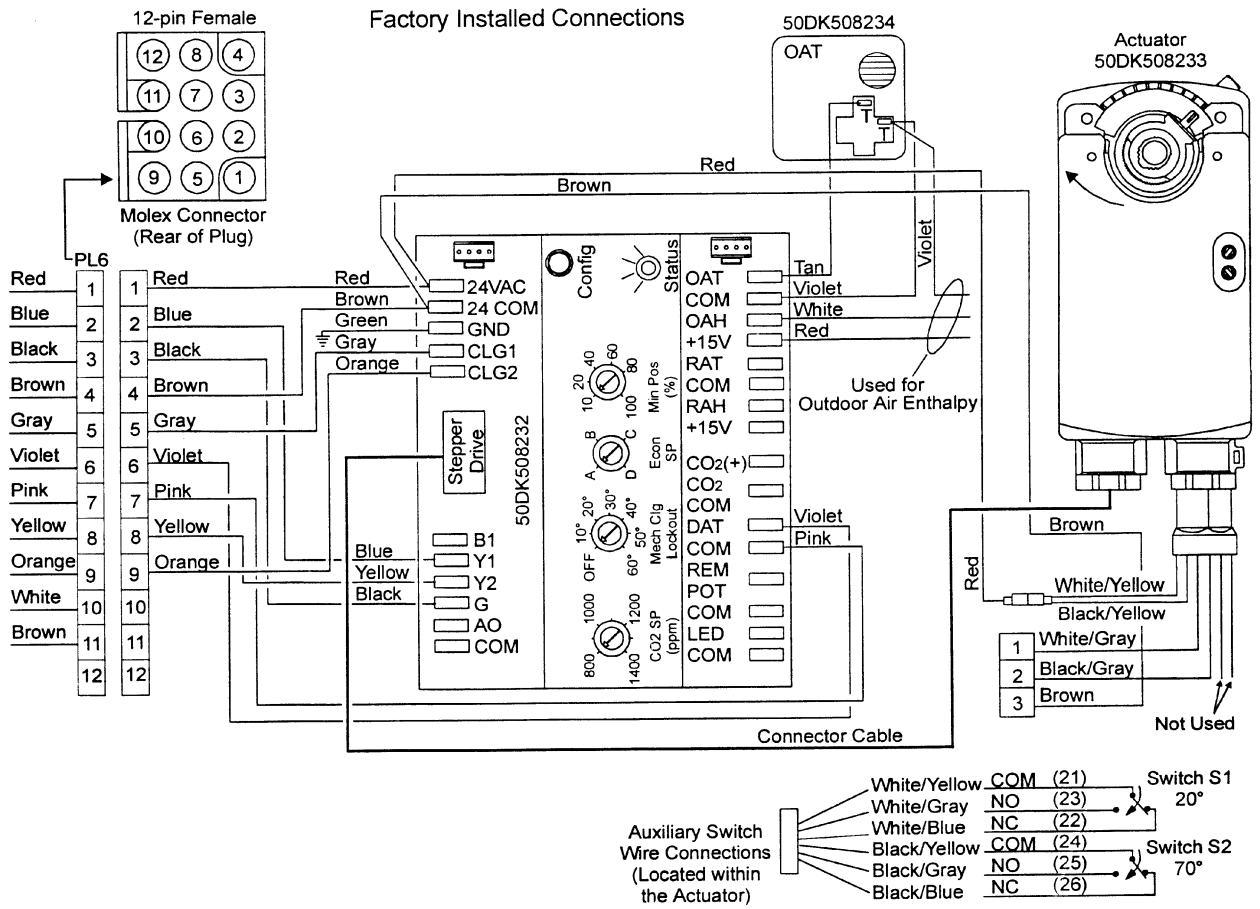
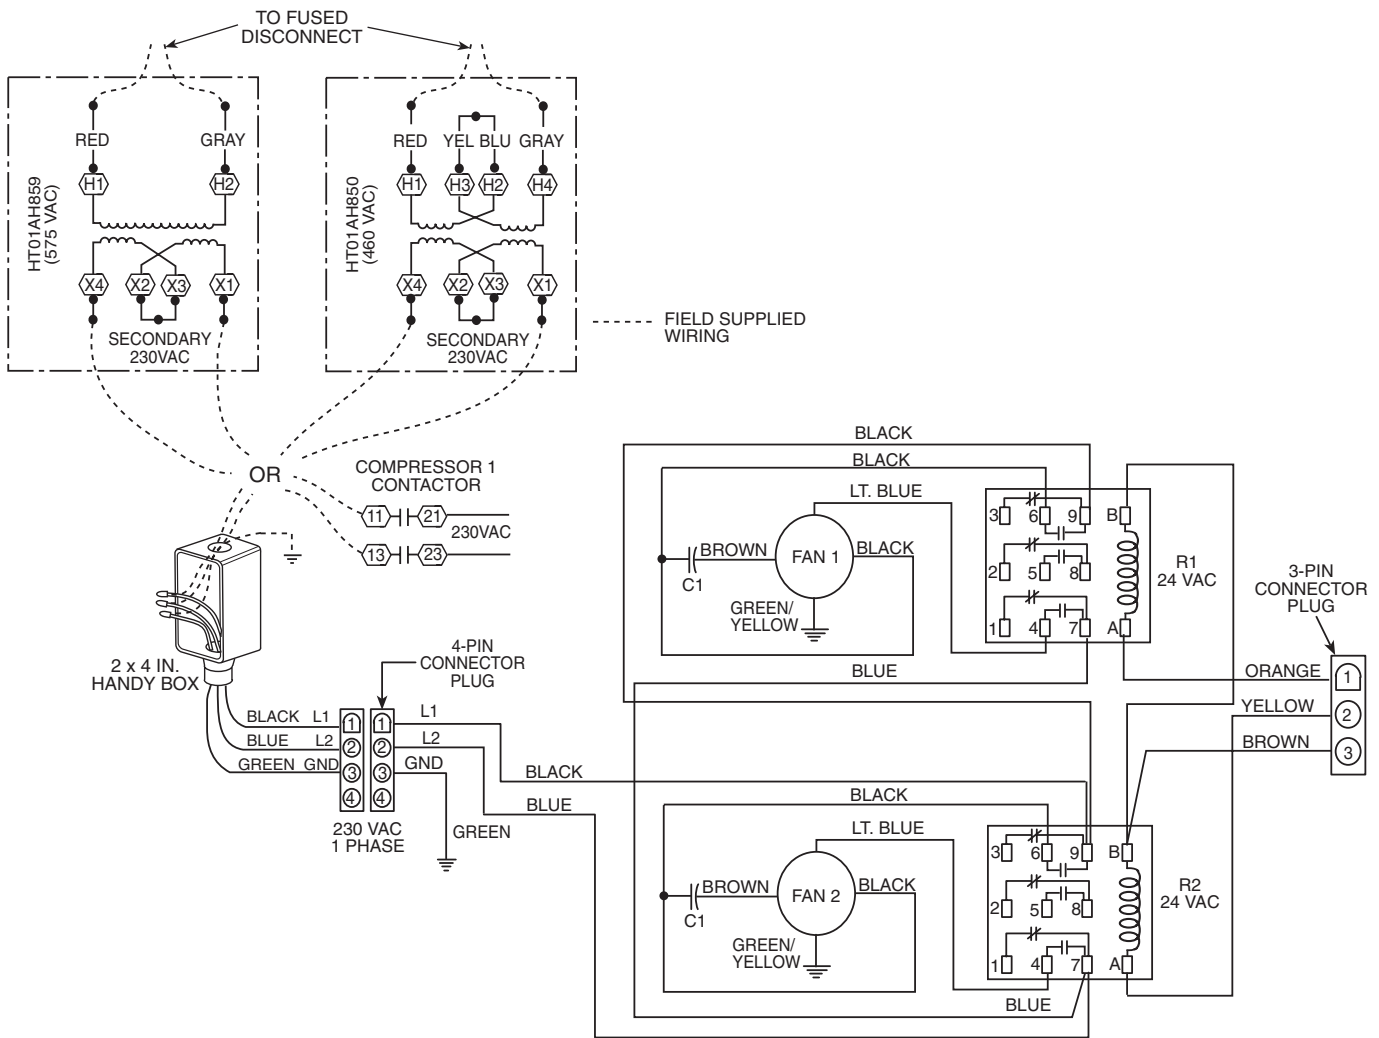

Fig. 30 — EconoMi\$er Wiring
Fig. 32 — Wiring Diagram for Power Exhaust System
- Remove and save the 12-pin blue and yellow wire jumper plug from the unit wiring harness located in the upper left corner and insert the EconoMiSer plug. Refer to wiring diagram Fig. 30 and 31. Also refer to Fig. 32 if installing an accessory power exhaust.
NOTE: If optional power exhaust is being installed, complete installation of power exhaust at this time. See Fig. 32 for wiring.